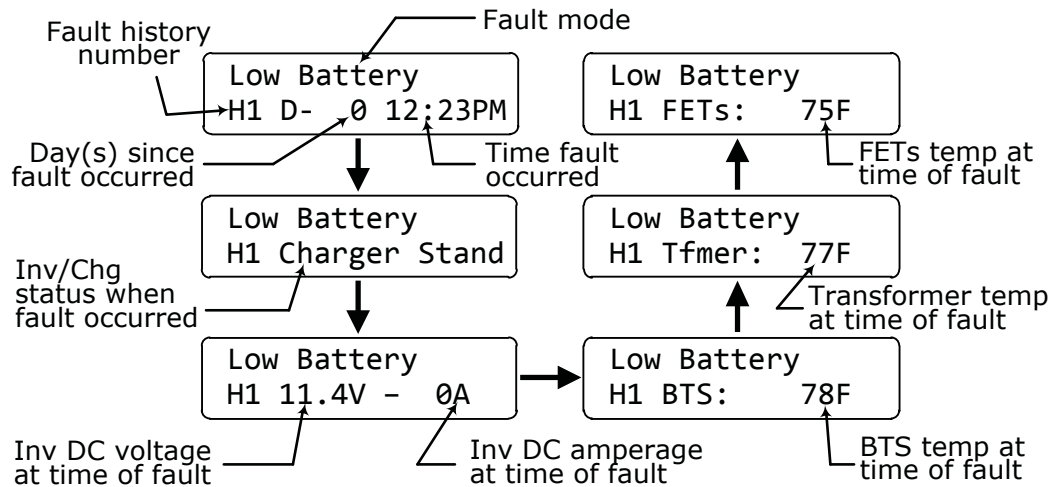

Figure 3-8, Inverter Fault History Menu Items
- **04A Inv Faults** – This menu displays a history of the last nine inverter/charger faults. Information for each fault displays from the most recent fault (H1) to the earliest/past recorded faults (H2 up to H9). Refer to Figure 3-8.